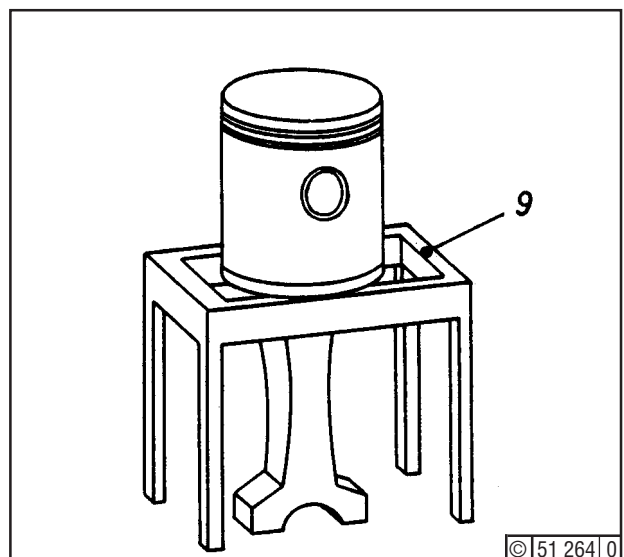

Fig. 2
Remove top shell. Put down piston/rod assembly in wooden rack (9) - Fig. 2 - or between two blocks on a wooden support.